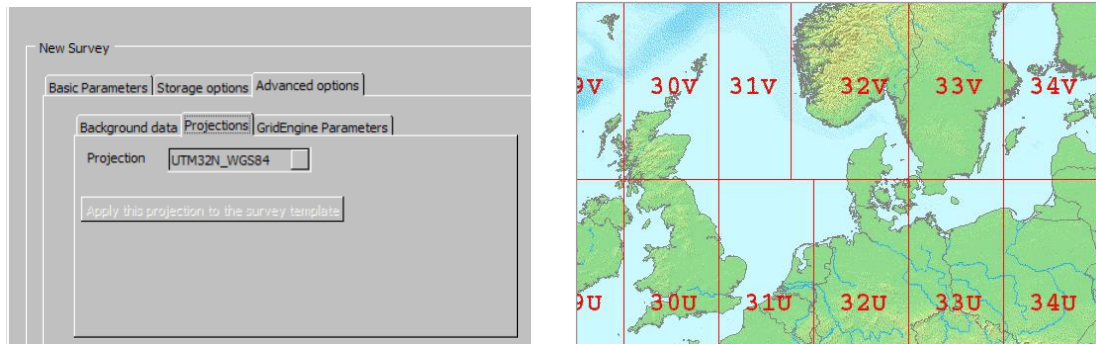

Figure 8: (left) Projections display - (right) UTM cells in the North Sea
- **Map projection:** Select **Advanced options/Projection** (Figure 8, left). Select the applicable projection from the drop-down list. For the North Sea the map projection should be either **UTM31N_WGS84** or **UTM32N_WGS84** depending on the working area (Figure 8, right).